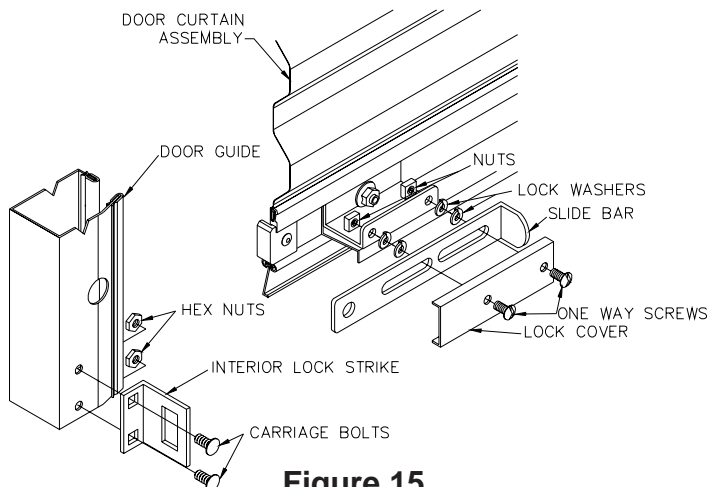

Figure 15.
10.2 Assemble components as shown in Figure 15, noting that two (2) high collar lock washers are placed over each 1/4" one-way screw to allow the lockbar to slide freely.